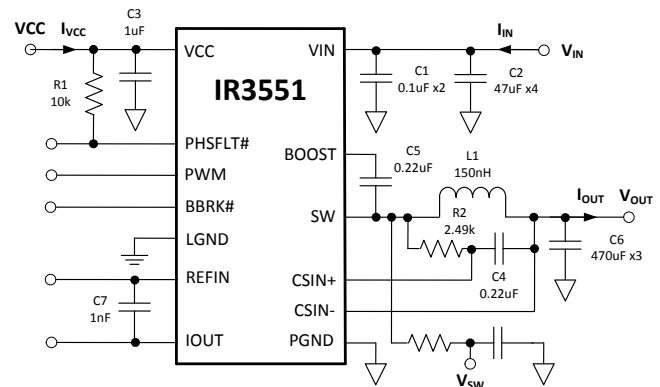

Figure 32: IR3551 Power Loss Measurement
Circuit of Figure 32,  $V_{IN}=12V$ ,  $V_{OUT}=1.2V$ ,  $f_{SW} = 400kHz$ ,  $L=150nH$  (0.29mΩ),  $V_{CC}=7V$ ,  $T_{AMBIENT} = 25^{\circ}C$ , no heat sink, no air flow, 8-layer PCB board of 3.7" (L) x 2.6" (W), no PWM controller loss, no inductor loss, unless specified otherwise.
Circuit of Figure 32,  $V_{IN}=12V$ ,  $V_{OUT}=1.2V$ ,  $f_{SW} = 400kHz$ ,  $L=150nH$  (0.29mΩ),  $VCC=7V$ ,  $T_{AMBIENT} = 25^{\circ}C$ , no heat sink, no air flow, 8-layer PCB board of 3.7" (L) x 2.6" (W), no PWM controller loss, no inductor loss, unless specified otherwise.
The single-phase IR3551 efficiency and power loss measurement circuit is shown in Figure 32.